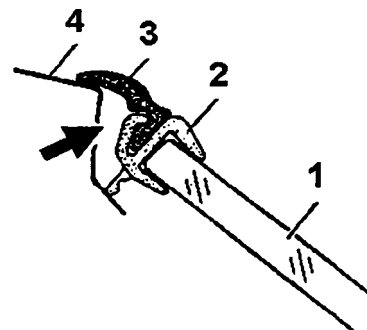

Figure 2
On vehicles produced before the improved trim frame bonding, (99 8XS 62 4609 - Coupe, 99 6XS 65 3096 - Cabriolet) the trim frame around the windshield and rear window (rear window-Coupe only) should be secured by inserting a foam rubber cord (996 541 903 00) in the gap between the body and the trim frame (Figure 2, arrow).
3. Wet the gap (Figure 2, arrow) between the body (Item 4) and the trim frame (Item 2) with a sponge and water.